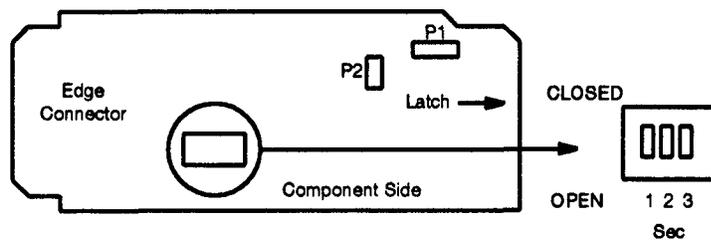

Figure 5. AEK38 DS2 INTFC1 Option Settings
13. Refer to **Figure 5** and set the option switches according to **Table G**.